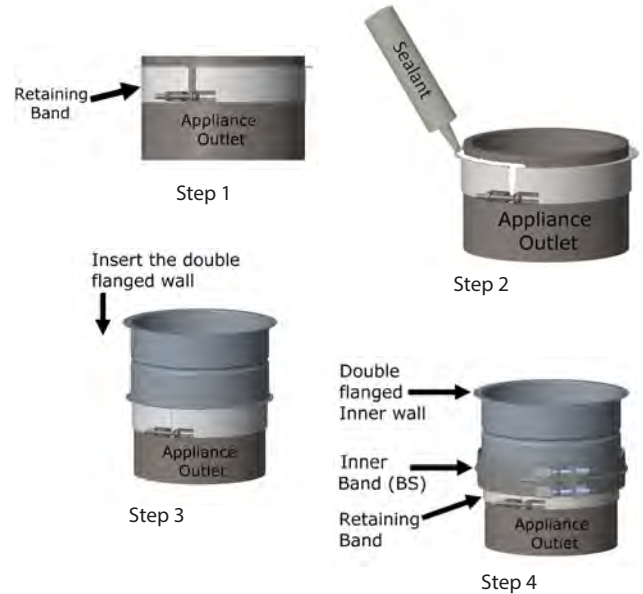

Figure 76 - Installation of a Single Wall Adaptor (SWA) on an appliance
4. Tighten the Locking Band (BS) to hold and seal the adaptor in place. See Figure 76